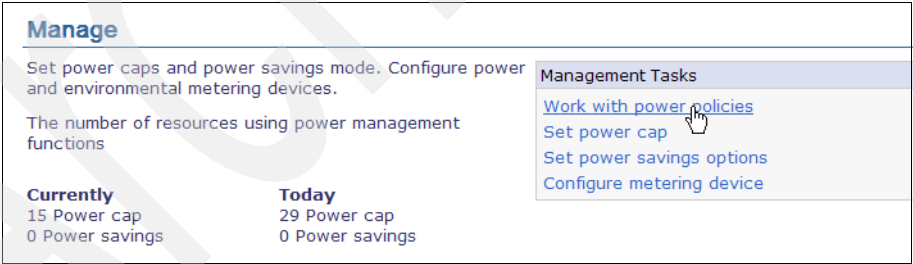

Figure 7-29 Creating a system power savings policy - 1
1. Start the power policy editor wizard by clicking **Work with power policies** in the Manage section of the Active Energy Manager home page, as shown in Figure 7-29.